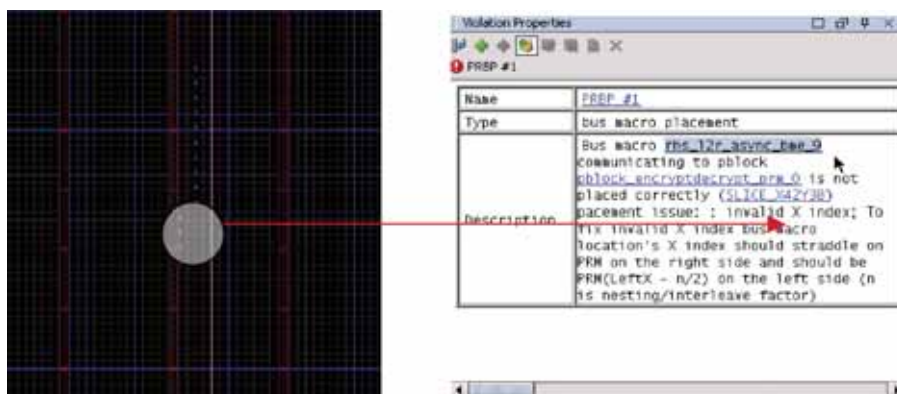

Figure 5 – The PRBP DRC verifies all rules that should be followed for bus macro placement.
1. Bus macro DRC. This provides verification for all design rules related to bus macro connectivity and placement. One example of a bus macro DRC is the PRBP check. This DRC checks for all rules that should be followed for bus macro placement. Figure 5 shows an example of a design that failed the PRBP DRC. In this case, the interleaved/nested macro should be placed at SLICE_X41Y*.